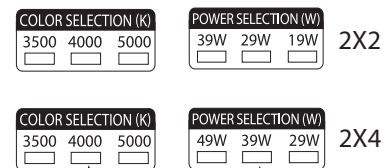

Fig. 6
2. Select a color temperature (CCT) and/or power (W) by sliding the respective switch to the desired value (Fig 6).